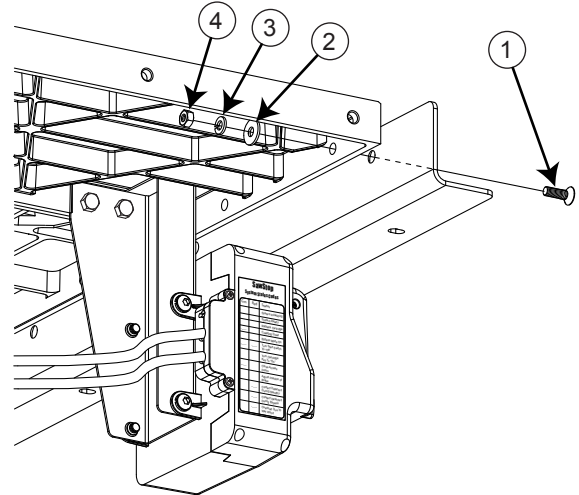

Fig. 3
3. Place an M8.5 x 23 washer and an M8 lock washer on the back of each of the six M8 x 25 countersunk socket head bolts, and then thread an M8 hex nut on each bolt (see Fig. 3). Hand tighten the nuts; do not fully tighten them.